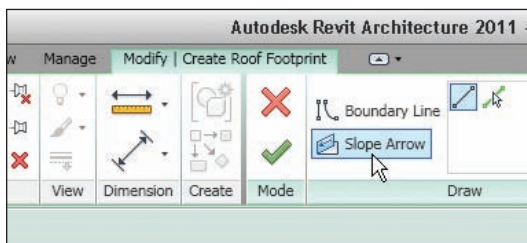

FIGURE 7.40 Clicking the Slope Arrow button on the Draw panel
1. On the Draw panel, select the Slope Arrow button, as shown in Figure 7.40.